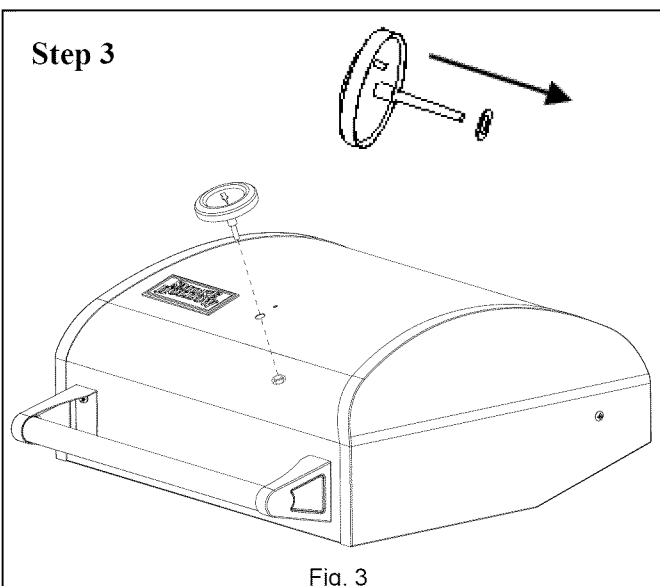

Fig. 3
Refer to Fig. 3, unscrew the nut from (1) Heat Indicator.